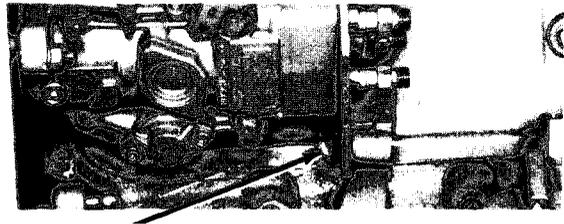

Figure 7-8
13. Using 13 mm wrench, remove capscrew (6, Figure 7-8) from rear brake.